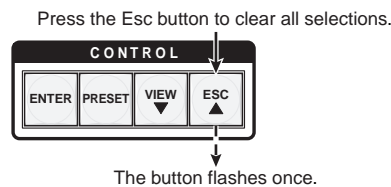

Figure 3-66 — Clear all selections
1. Press and release the Esc button (figure 3-66).